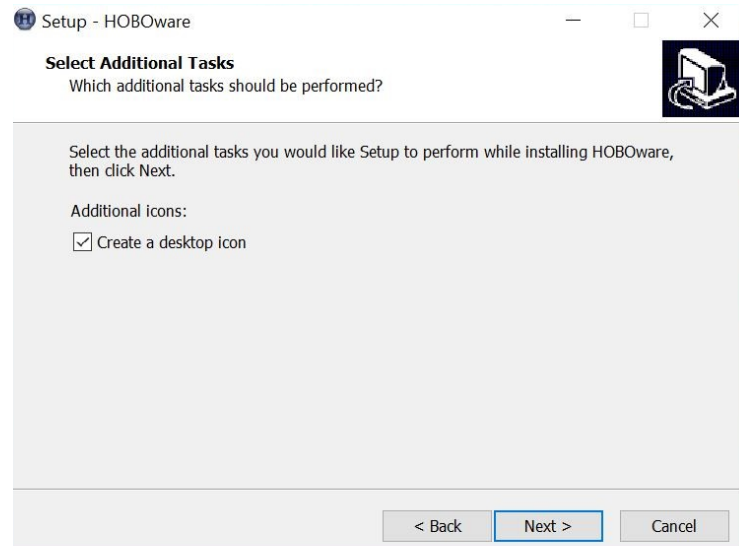

Figure 16. Desktop Icon Prompt
6. The next window (Fig. 16) will ask you if you would like to create a desktop icon for HOBOWare. You can check or uncheck this box to create a desktop shortcut. Then click NEXT.